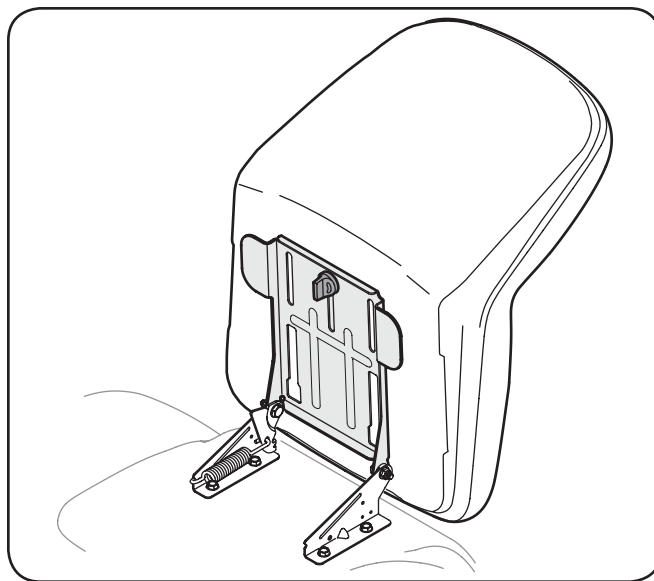

Figure 3-4
1. Position the shoulder screws (found on the base of the seat) inside the slot openings in the seat pivot bracket. Fig. 3-4.